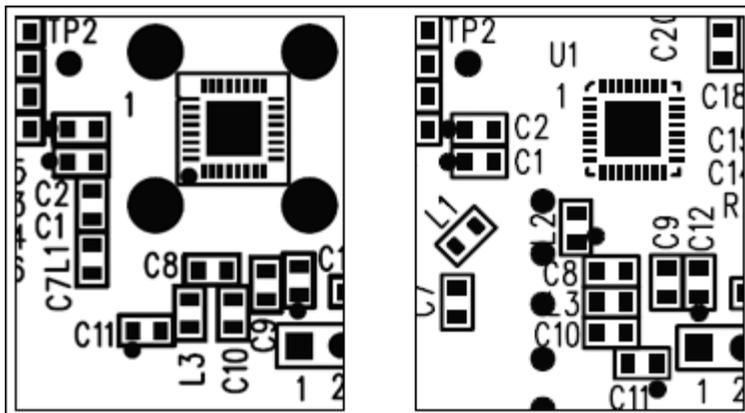

Figure 2. Two different PCB layouts are shown, one with poor component orientation (L1 and L3) and the other, preferable orientation.
An optimal orientation positions circuit B so the plane of its current loop is parallel to the field lines of circuit A. To accomplish this goal, orient the inductors orthogonally whenever possible. Consider, for example, the circuit board of an evaluation (EV) kit (MAX7042EVKIT) for a low-power FSK superheterodyne receiver (**Figure 2**). Because the three inductors on this board (L3, L1, and L2) are in proximity, they are oriented at 0°, 45°, and 90° to minimize their mutual inductance.